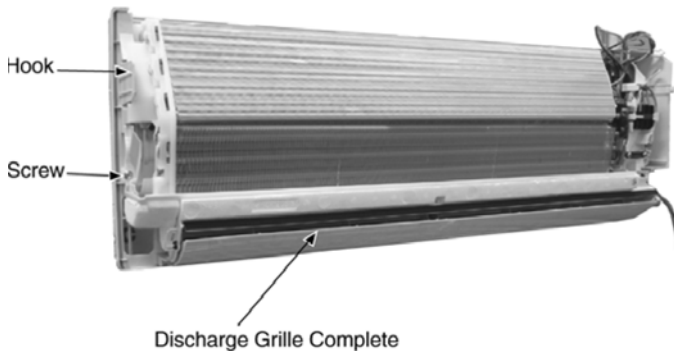

Fig. 6
- Remove the screw on the left side of the unit. (Fig. 6)
- Pull the hook to the left and lift up the evaporator. (Fig. 6)
- Pull down the Discharge Grille Complete. (Fig. 6)